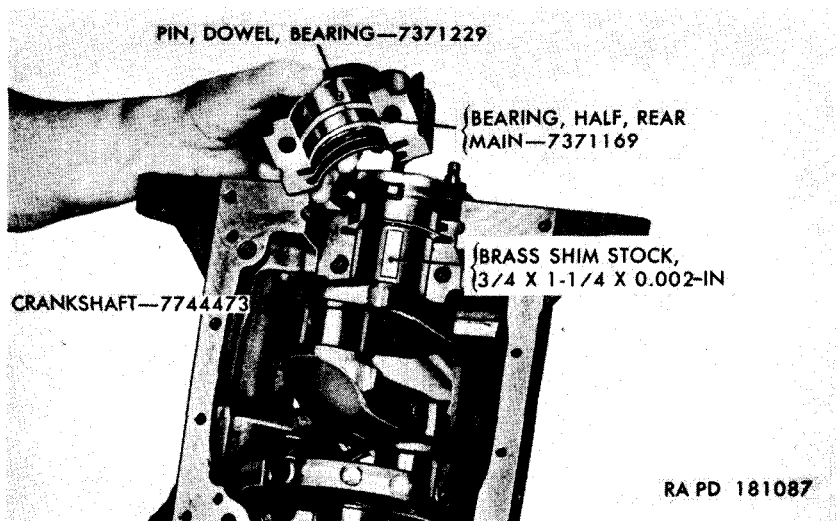

Figure 76. Checking rear main bearing for undersize.
- (2) *Check for excessive main bearing clearance.* If the crankshaft turns freely, remove the bearing cap with its half bearing. Cut a piece of brass shim stock $\frac{3}{4}$ -inch wide, $1\frac{1}{4}$ -inches long, and 0.002 thick (fig. 76).